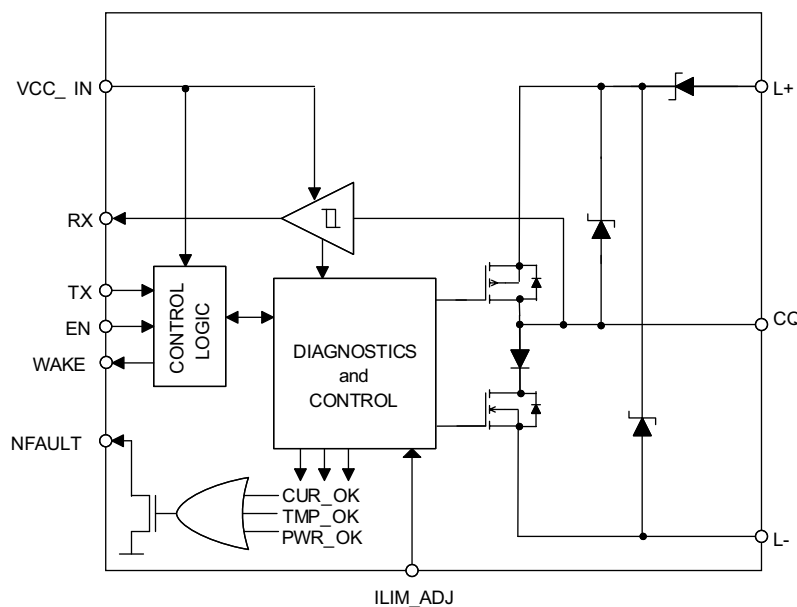

Figure 11. Block Diagram TIOL111
Figure 11 shows that the TIOL111 or TIOL111x driver output (CQ) can be used in either push-pull, high-side, or low-side configuration using the enable (EN) and transmit data (TX) input pins. The internal receiver converts the 24-V signal on the CQ line to standard logic levels on the receive data (RX) pin. A simple parallel interface is used to receive/transmit data and status information between the slave and the local controller.